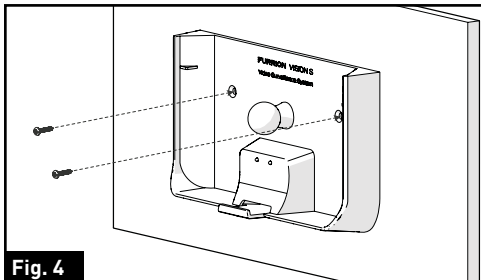

Fig. 4
5. Fix the mounting bracket onto the vehicle wall using 2 flat self-tapping screws provided. (Fig. 4)